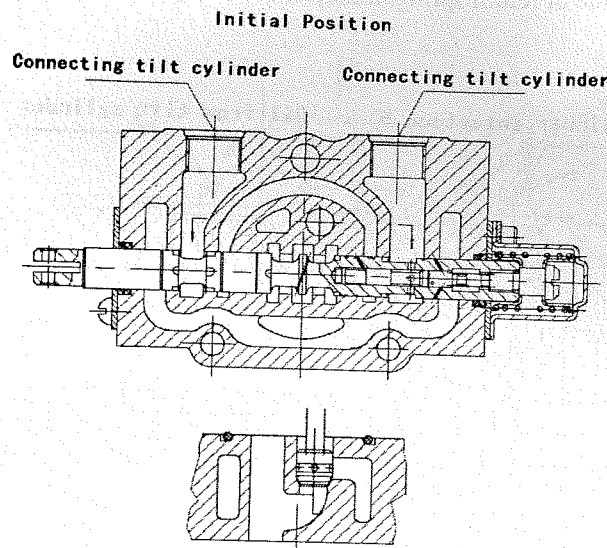

Fig 8-2
(1) Neutral Position (Fig 8-2)